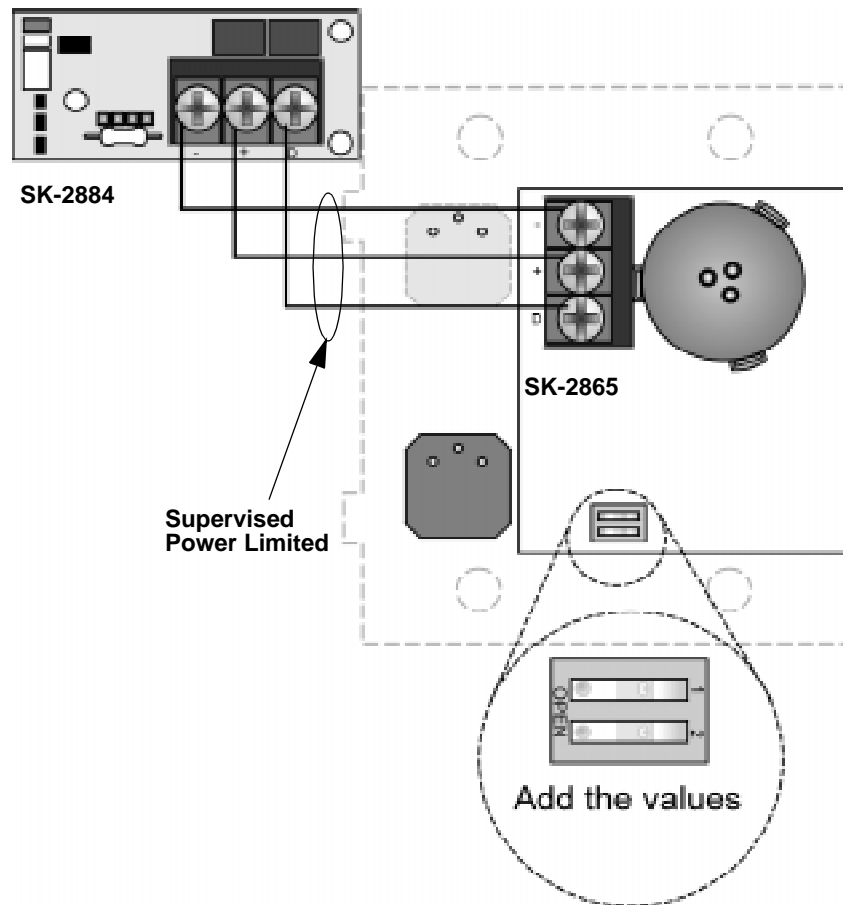

Figure 4-11 SK-2865 Connection to the SK-2884
3. Terminate the wiring as shown in Figure 4-11. See also Table 4-2.
The range of valid addresses is 0-3. Each device requires a unique address. Set the dip switches as shown in Table 4-3. See also Figure 4-11.
1. Make sure that the SK-2865 is properly wired to the control panel. See Figure 4-11.